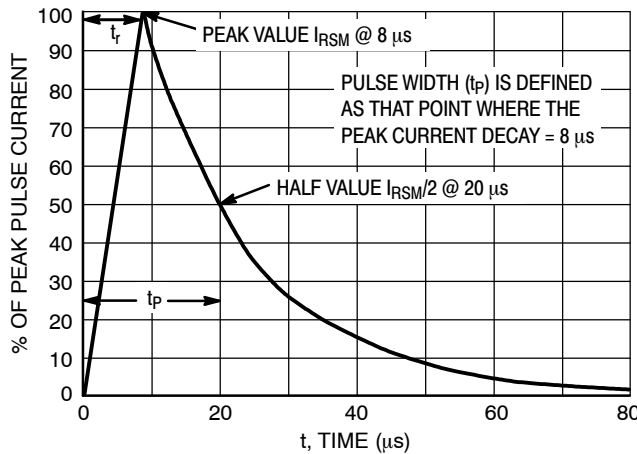

Figure 5. 8 X 20 μs Pulse Waveform
1. Nonrepetitive current pulse per Figure 5 (Pin 5 to Pin 2).
- Nonrepetitive current pulse per Figure 5 (Pin 5 to Pin 2).
- Surge current waveform per Figure 5.